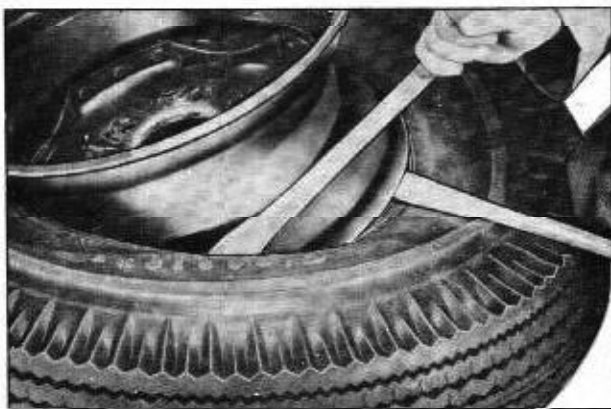

Fig. 5-28 Removing Tire
4. Turn the tire over and again use tire irons, one between the rim and bead to pry the rim out, the other to pry outward between the tire bead and rim as shown in Fig. 5-28.